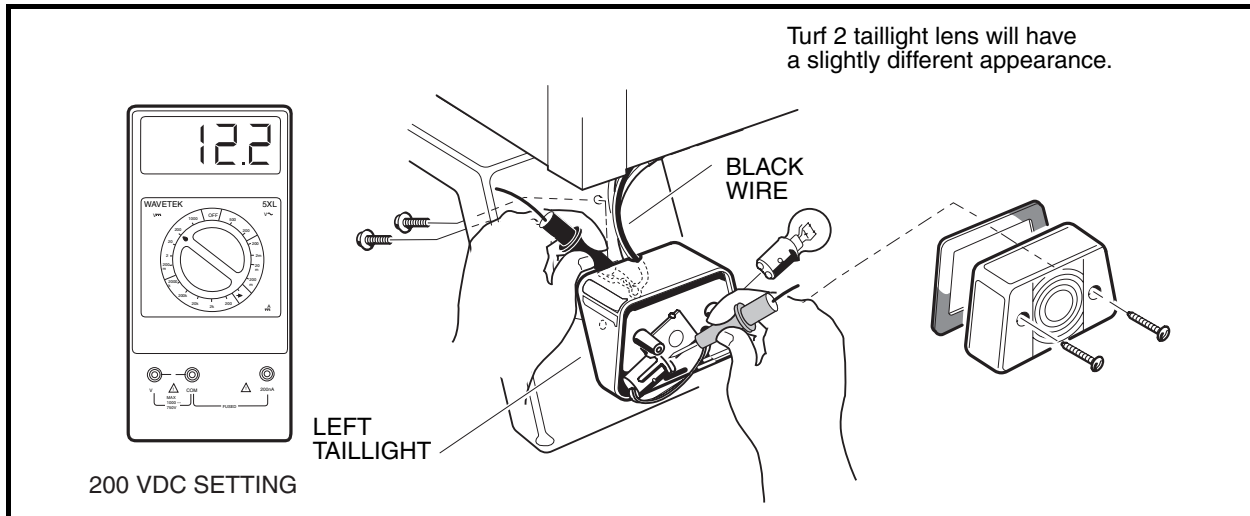

Figure 11-39 Taillight Socket Voltage Test
- 2.1. Remove the taillight lens and remove the light bulb from the socket (**Figure 11-39, Page 11-39**).
1. Inspect wires at the light bulb socket. Make sure wires are securely fastened to the contacts inside the socket (**Figure 11-39, Page 11-39**).